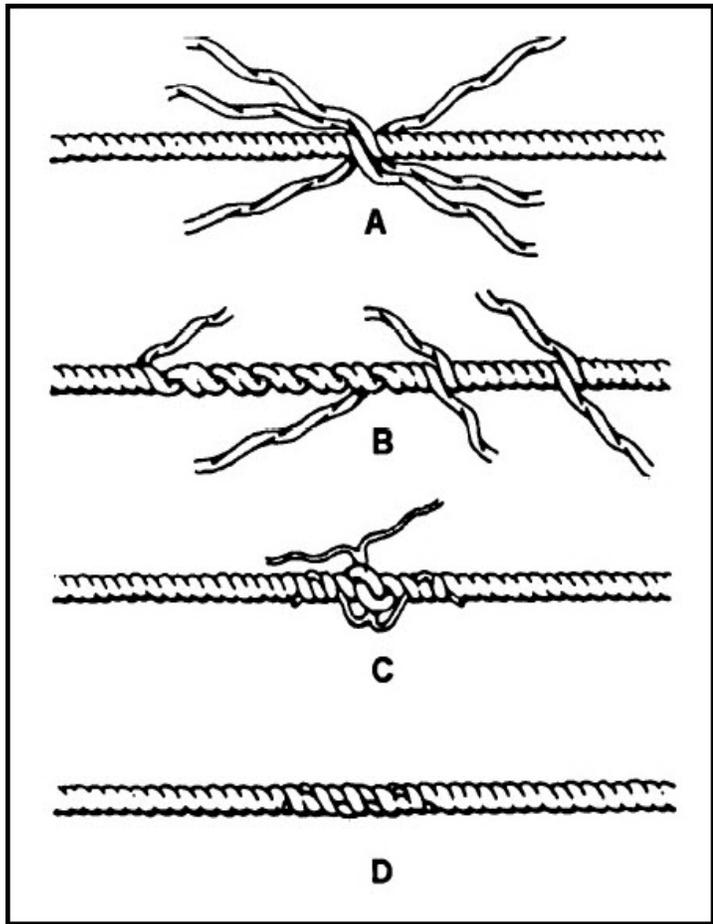

Figure 2-9 Long splice in fiber line
2. Place the ends together, as shown in view A of figure 2-9, and seize five of the strands together.